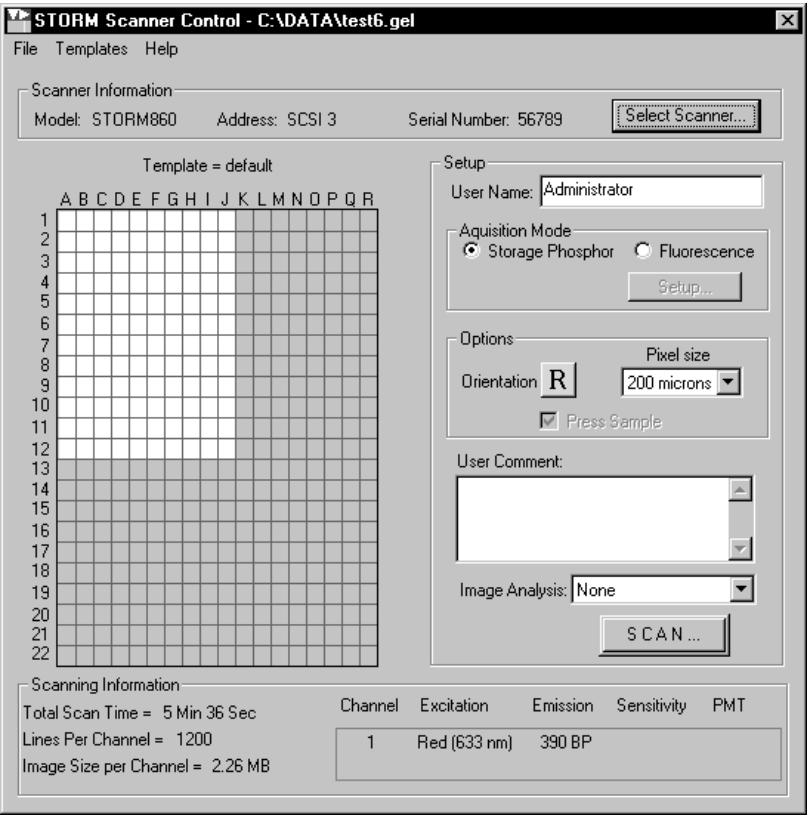
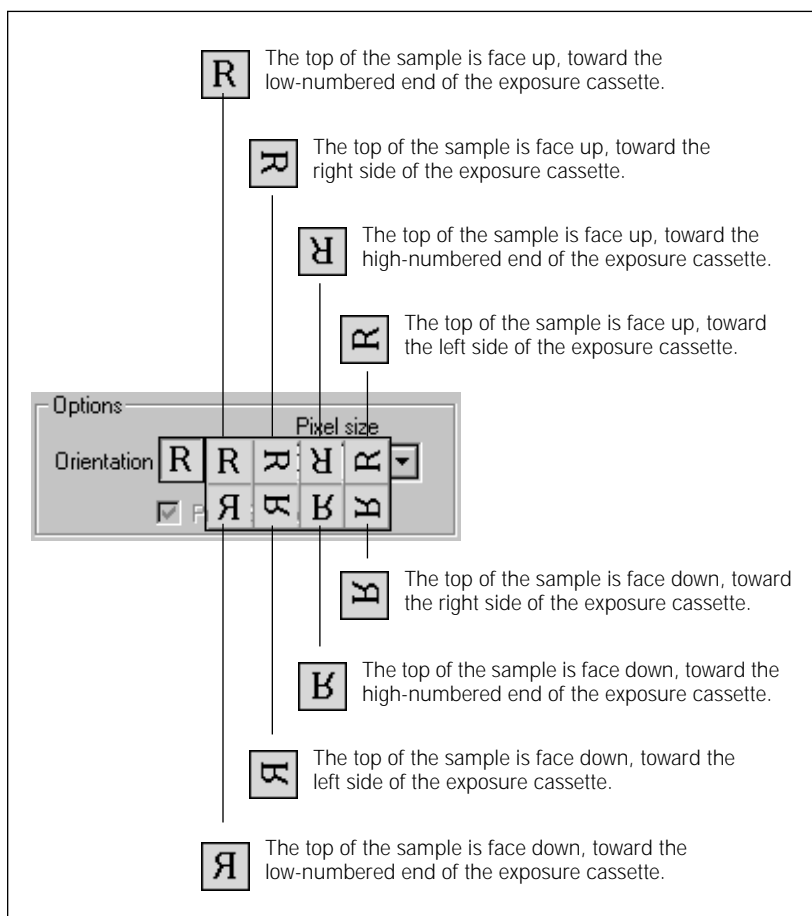

Figure 6-4. The Scanner Control window set for the storage phosphor scan acquisition mode.
Figure 6-7. The sample orientation buttons.
You use the Scanner Control window (figure 6-4) to select the scan parameters you want to use when you scan the storage phosphor screen. If the Scanner Control window is not open, see section 3.3.
The storage phosphor scan acquisition mode is the default mode when you first start the Scanner Control software. If the Storm instrument has been used for fluorescence scanning, you choose the storage phosphor scan acquisition mode by clicking the **Storage Phosphor** button in the Acquisition Mode area of the Scanner Control window (figure 6-4).
You choose the orientation from the Setup Options area in the Scanner Control window (figure 6-4). The orientation buttons allow you to select an icon that represents how you placed the sample in the exposure cassette. Figure 6-7 describes each sample orientation option.
Pixel size refers to the size of each individual picture element that is recorded and, together with the thousands of other pixels, forms the image. You choose the pixel size from the Pixel Size list in the Setup Options area of the Scanner Control window (figure 6-4).
- **For samples requiring very high resolution** (such as whole body autoradiography), choose **50 microns**. The 50- μm pixel size produces 200 data points per cm and 400 data lines per grid square. After you change the pixel size, Scanner Control updates the image size, the scan time, and number of lines per channel in the Scanning Information area (figure 6-4).
You can analyze the scanned image immediately after the scan is finished. To do this, select the analysis software you want to use at the end of your scan from the Image Analysis list in the Setup area of the Scanner Control window (figure 6-4). After the scan is complete, the selected software starts and displays the image.